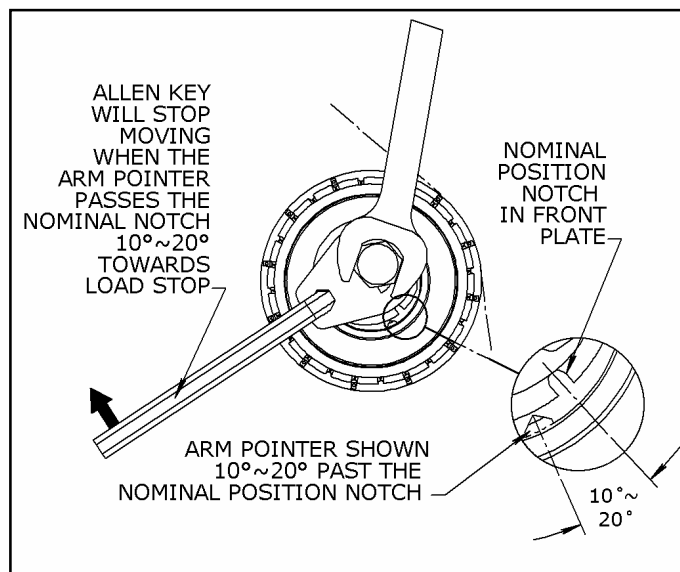

Figure 5: Tensioner Shown at 10°~20° past the nominal notch
9. Continue rotating the Installation Shaft until the arm pointer moves past the nominal position notch towards the load stop side by approximately **10°~20°**. While holding the installation shaft, tighten the M8 Mounting Bolt to **18~23 Nm** (Figure 5).